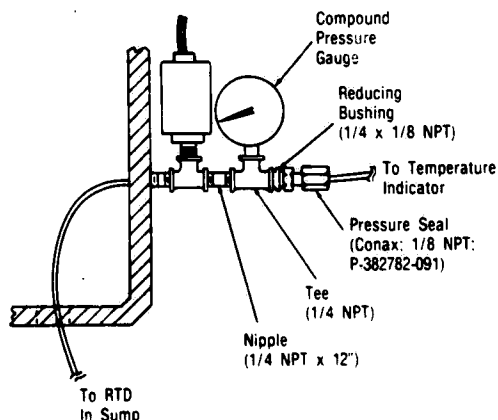

Figure 5-1. INSTALLATION OF TEST EQUIPMENT.
3. Install a compound pressure gauge (30 inches Hg — 100 PSIG) to the chamber of the washer/sterilizer, at the tee on the side of the chamber where the pressure transducer mounts. Temporarily disconnect the chamber pressure gauge and use this port. See Figure 5-1.
4. Install the digital thermometer thermocouple wire into the sump and tape the end of the thermocouple wire to the RTD probe. See Figure 5-1.